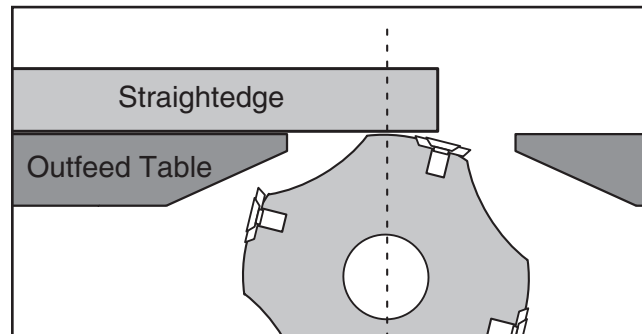

Figure 46. Example of straightedge just touching cutterhead body.
1. Place straightedge on outfeed table so it hangs over cutterhead, then rotate cutterhead until cutterhead body is at the highest point of rotation (see **Figure 46**).